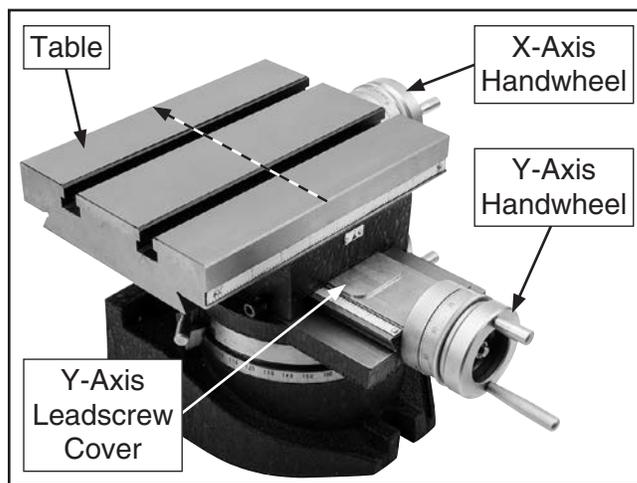

Figure 34. Location of Y-axis leadscrew cover.
1. Turn Y-axis handwheel to expose Y-axis leadscrew cover (see **Figure 34**).